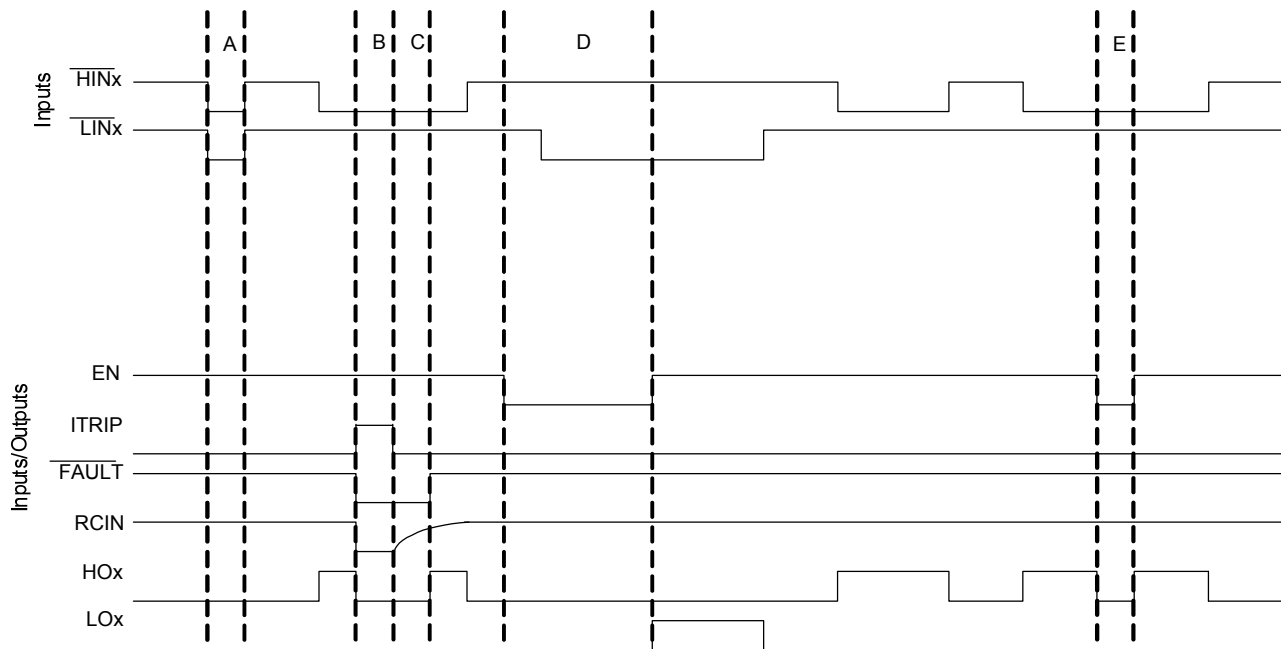
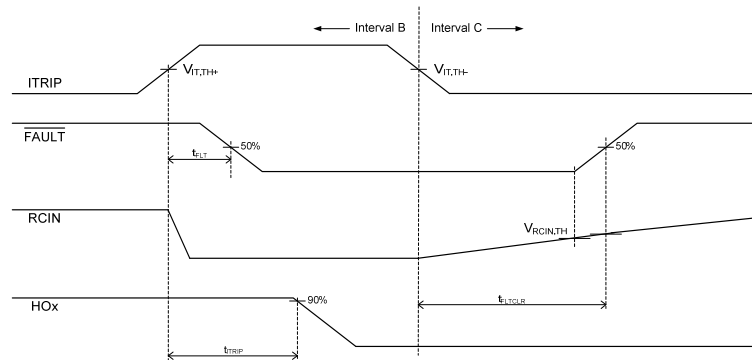

Figure 5: Input/output timing diagram for AUIRS2336S
Figure 6: Detailed view of B & C intervals
During interval A of Figure 5, the HVIC has received the command to turn-on both the high- and low-side switches at the same time; as a result, the shoot-through protection of the HVIC has prevented this condition and both the high- and low-side output are held in the off state.
Interval B of Figures 5 and 6 shows that the signal on the ITRIP input pin has gone from a low to a high state; as a result, all of the gate drive outputs have been disabled (i.e., see that HOx has returned to the low state; LOx is also held low), the voltage on the RCIN pin has been pulled to 0 V, and a fault is reported by the FAULT output transitioning to the low state. Once the ITRIP input has returned to the low state, the output will remain disabled and the fault condition reported until the voltage on the RCIN pin charges up to $V_{RCIN,TH}$ (see interval C in Figure 6); the charging characteristics are dictated by the RC network attached to the RCIN pin.
During intervals D and E of Figure 5, we can see that the enable (EN) pin has been pulled low (as is the case when the driver IC has received a command from the control IC to shutdown); this results in the outputs (HOx and LOx) being held in the low state until the enable pin is pulled high.